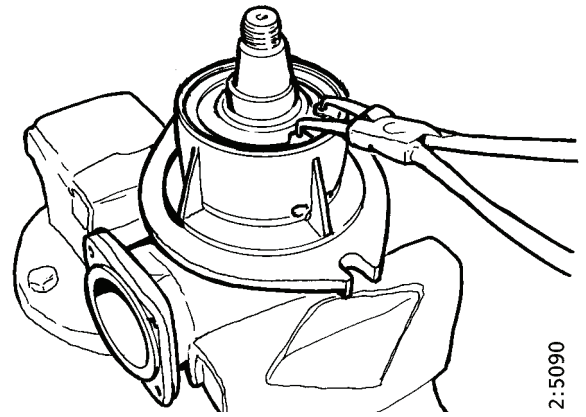

Figure 7-34
3. Tap the shaft and bearing into the housing until the bearing is against the shoulder in the housing. Install the retaining ring (Figure 7-34).